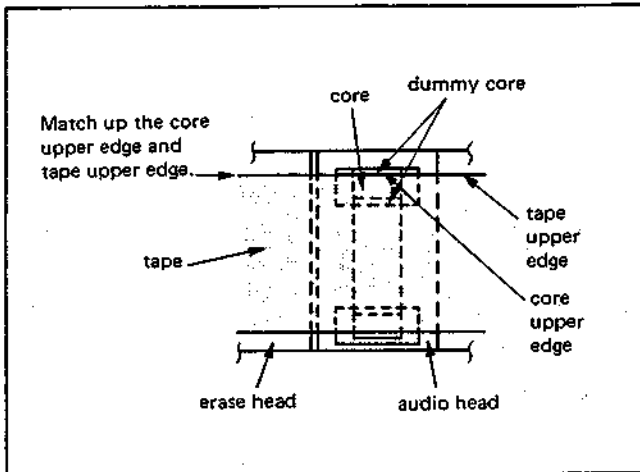

Fig. 2-28
- 5) While observing the audio head with a dental mirror, match up the core upper edge and tape upper edge as in Fig. 2-28, with the two height adjustment screws and the azimuth adjustment screw.